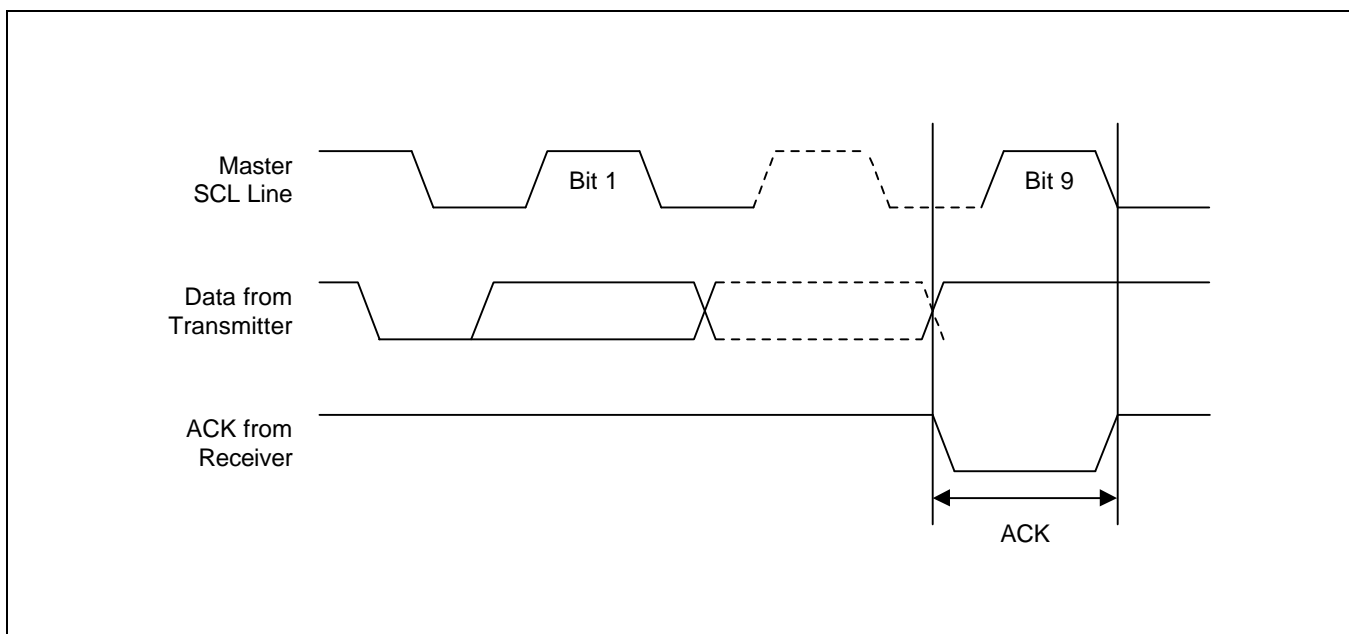

Figure 2-8. Acknowledge Response From Receiver
- **ACK (Acknowledge):** An ACK signal indicates that a data transfer is completed successfully. The transmitter (the master or the slave) releases the bus after transmitting eight bits. During the 9th clock, which the master generates, the receiver pulls the SDA line low to acknowledge that it successfully received the eight bits of data (see Figure 2-8). But the slave does not send an ACK if an internal write cycle is still in progress.